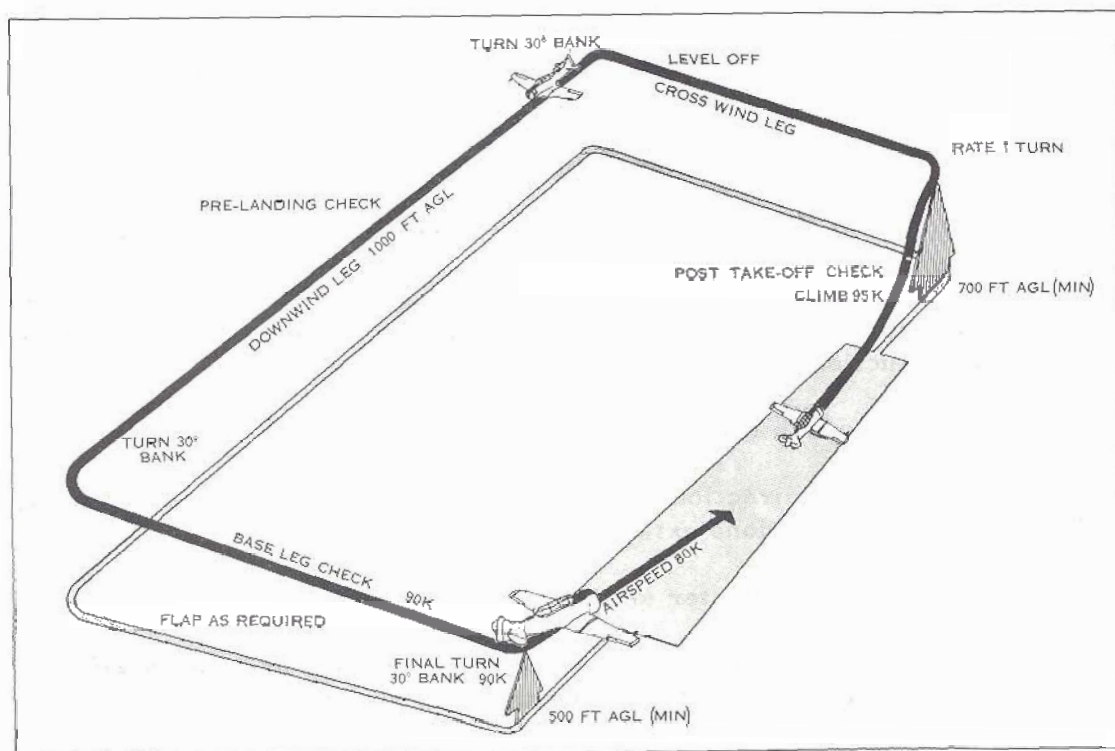

Figure 1: The Traffic Pattern
(1) The traffic pattern flown at FTS is the same as the traffic pattern flown at PFS. It is a means of controlling the aircraft using an aerodrome since, by conforming to established procedure, the risk of collision is reduced. The normal pattern used for all aircraft other than fighter types is rectangular, as shown in Figure 1.